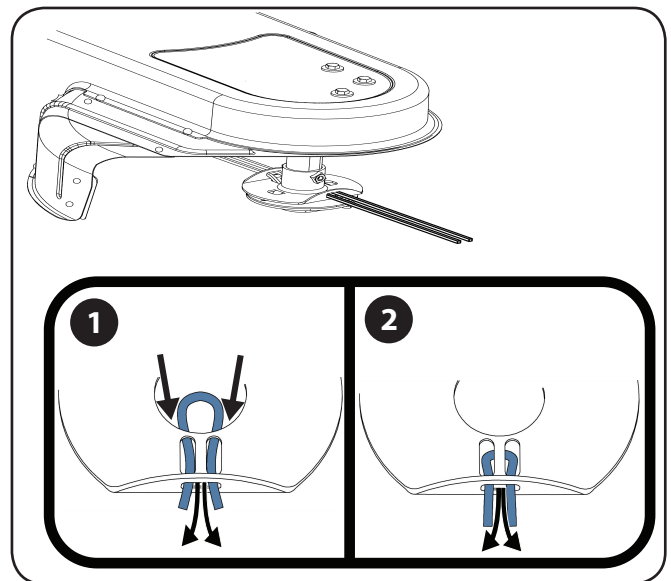

Figure 5-3
4. Cross the line ends and pull each tightly to secure the trimmer line in place. See Figure 5-3.